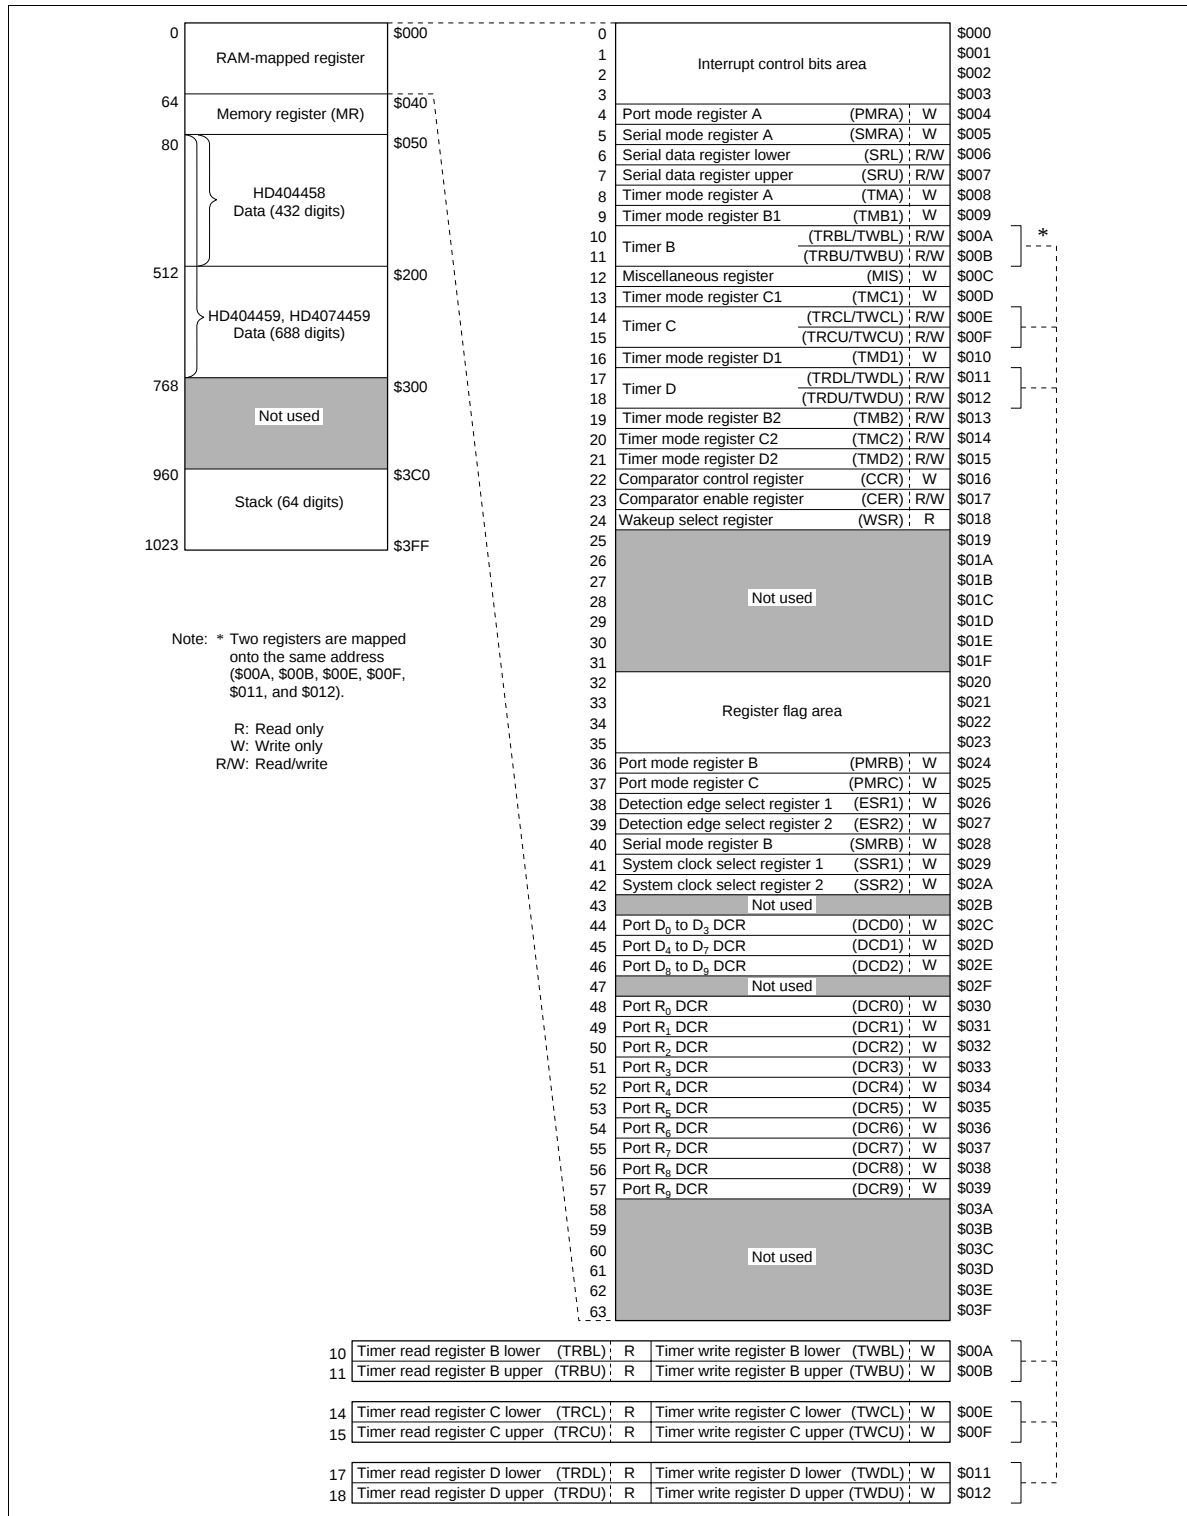

Figure 2 RAM Memory Map
The HD404458 MCU contains a 512-digit $\times$ 4-bit RAM area. The HD404459 and HD4074459 MCUs contain 768-digit $\times$ 4-bit RAM areas. Both of these RAM areas consist of a memory register area, a data area, and a stack area. In addition, an interrupt control bits area, special register area, and register flag area are mapped onto the same RAM memory space labeled as the RAM-mapped register area. See the RAM memory map of figure 2.
This area is used as mode registers and data registers for external interrupts, serial interface, timer/counters, and as data control registers for I/O ports. See figures 2 and 5. These registers can be classified into three types: write-only (W), read-only (R), and read/write (R/W). RAM bit manipulation instructions cannot be used for these registers.